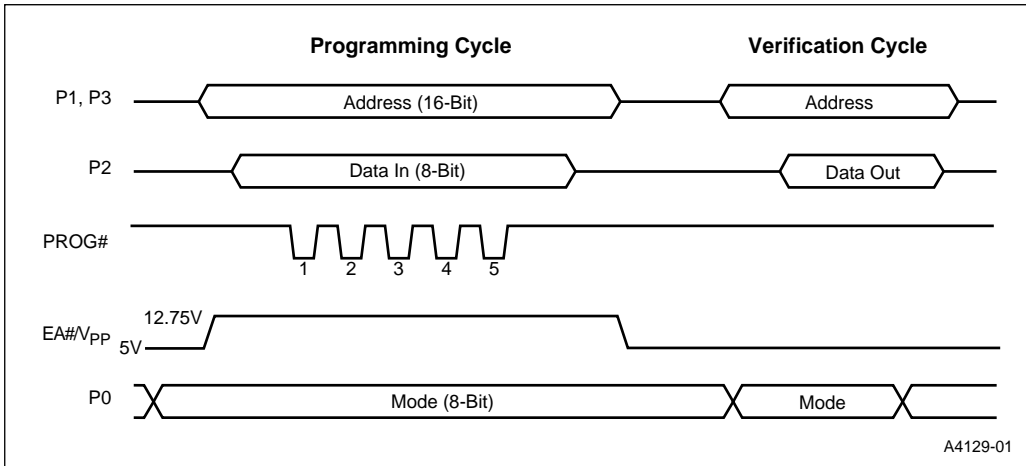

Figure 14-2. Program/Verify Bus Cycles
To perform the write operation, raise V_{pp} to 12.75 V and pulse the PROG# pin per Table 14-1. Then return V_{pp} to 5 V. Verification is performed in a similar manner but without increasing V_{pp} and without pulsing PROG#. Figure 14-2 shows the program and verify bus cycle waveforms. For waveform timing information, refer to the 8XC251SA, SB, SP, SQ High-Performance CHMOS Microcontroller Datasheet.
- To program, raise V_{pp} to 12.75 V and pulse the PROG# pin. See Figure 14-2 for waveforms.